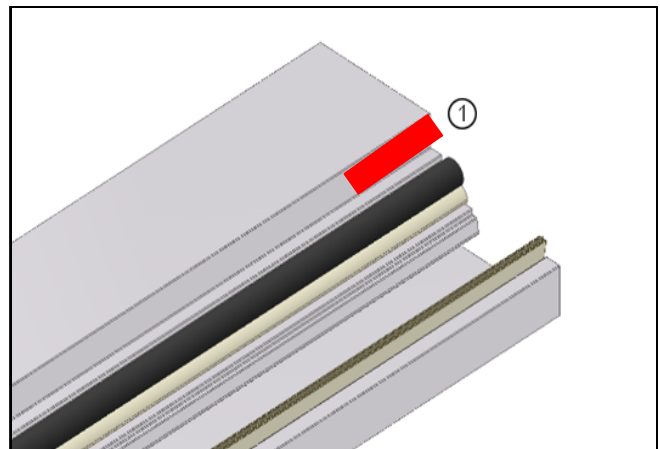

Figure 5
1. Place a bead of sealant of approximately 3/8" on both ends of the sill for Outswing French Doors with standard sill. See Figure 5.